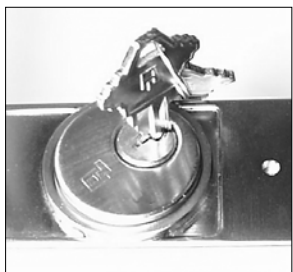

Fig. 1a: Insert key 1/2 way into cylinder and screw in
- 1a. **Insert key half-way into the cylinder, then screw it in.** See Fig. 1a. If cylinder will not seat flush, the cylinder back stop screw may require loosening. Cylinders that are longer than 1 1/4" will require a collar, which will stick out from the surface when correctly installed. Please see the cylinder information on the previous page.